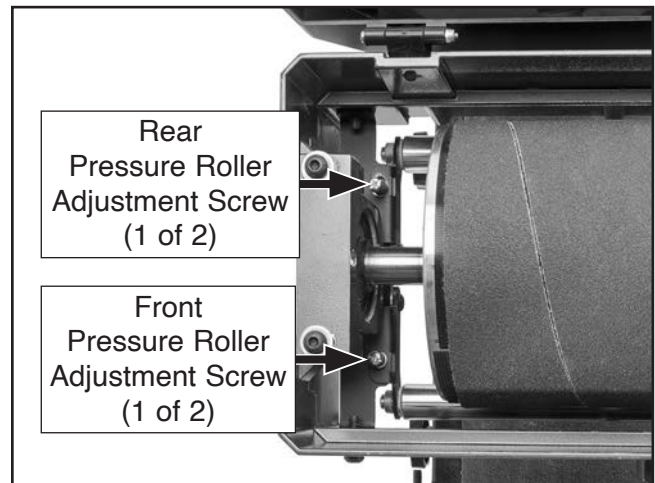

Figure 48. Location of pressure roller adjustment screws (left side shown).
7. Adjust rear pressure roller adjustment screws (see **Figure 48**), repeating **Steps 5–6** to test adjustment until rear pressure roller is 0.004" (0.1mm) below drum on either side.
10. Adjust front pressure roller adjustment screws (see **Figure 48**), repeating **Steps 8–9** to test adjustment until front pressure roller is 0.004" (0.1mm) below drum on either side.